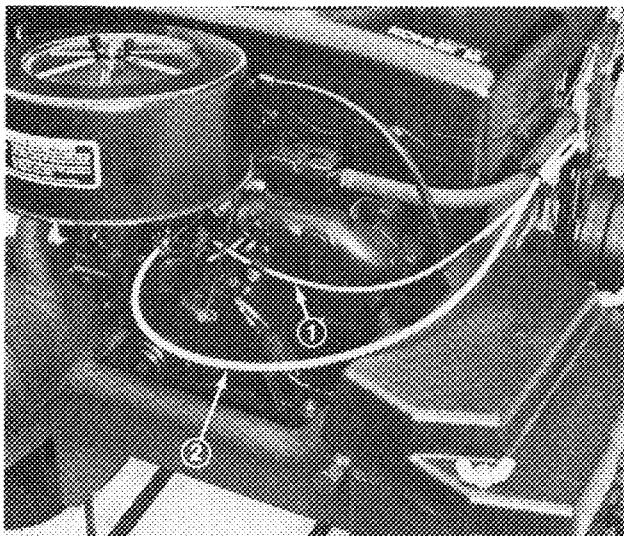

Figure 5
2. Route throttle cable around left side of engine, behind carburetor on front of engine and hook cable end into hole in governor arm (Fig. 5 & 6).
2. Route choke cable around left side of engine and hook cable end into hole in carburetor choke lever (Fig. 5 & 7).